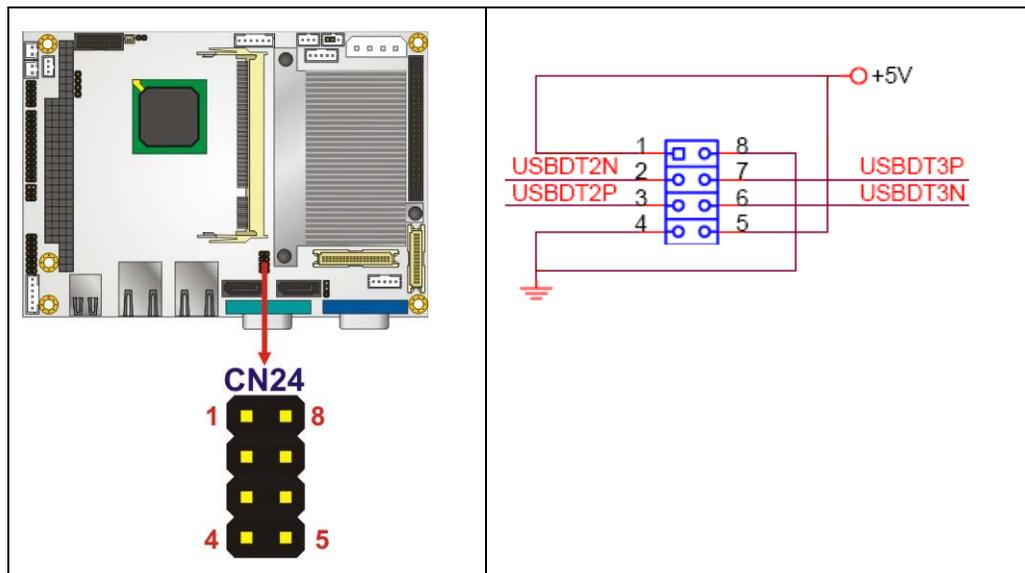

Figure 4-26: USB Connector Pinout Locations
- CN Location:** See **Figure 4-26**